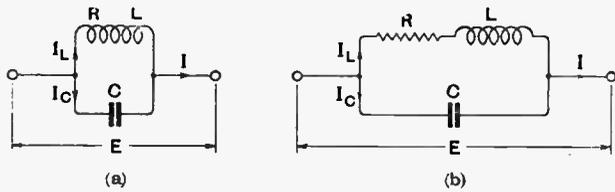
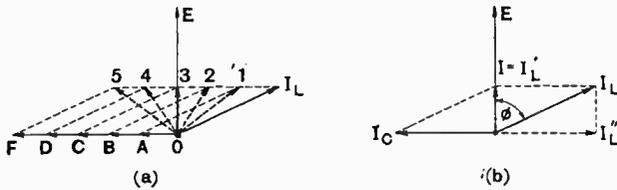

Fig. 1.—Parallel circuit (a) in which the inductance contains resistance and (b) the electrically equivalent circuit.
Fig. 3.—(a) Vector diagram to show that the current is a minimum when in phase with the voltage. (b) Vector diagram of parallel circuit tuned to resonance.
ries connected in series with a pure resistance of  $R$  ohms, and thus the parallel circuit of Fig. 1 (a), where the inductance coil possesses resistance  $R$ , is equivalent to the circuit of Fig. 1 (b), where the coil  $L$  has no resistance and the resistance  $R$  is free from inductance.
Suppose now that the capacity  $C$  could be varied over a wide range, the frequency being fixed; then the current in the coil would remain unchanged, and the condenser current  $I_C$  would be directly proportional to the capacity, so that the resultant current  $I$  would vary both in phase and in magnitude. In the vector diagram of Fig. 3 (a) the dotted line vectors, 1, 2, 3, 4, 5, show the resultant current for the several values,  $O A$ ,  $O B$ ,  $O C$ ,  $O D$ ,  $O F$ , respectively, of the condenser current. Now, obviously the shortest of these vectors is No. 3, which is exactly in phase with the applied voltage  $E$ , and therefore there is a certain value of condenser current  $I_C$  which will make the main current  $I$  a minimum, this minimum current being in phase with the applied E.M.F. Under these conditions the impedance  $Z$  of the circuit is clearly a maximum. When this occurs the circuit is tuned to complete resonance with the frequency  $f$  of the applied voltage. It should be noted here that the conditions are exactly
In tuning a parallel circuit to resonance then we are arranging the circuit to offer the greatest possible impedance to currents of a certain desired frequency or wavelength and to offer a low impedance to currents of other frequencies, and the observations made with regard to selectivity and signal strength in connection with the series circuit can be applied in general to the parallel circuit. The resonance curves showing the relation between frequency and impedance must reach as high a maximum value as possible at the resonant frequency, and the peak must be as sharp and pointed as possible. From the phase relations shown by the vector diagram of Fig. 3 (b) we can find what the necessary conditions are for obtaining the highest possible impedance at the frequency of complete resonance. At this frequency we saw that the result-
The maximum impedance  $Z$  of the circuit of Fig. 1, obtained when it is tuned to complete resonance, is equal to the ratio of the applied voltage  $E$  to the main current  $I$  drawn from the source of supply, *i.e.*,  $Z = E/I$  ohms. But from the vector diagram of Fig. 3 (b) we see that  $I = I_L \cos \phi = \frac{E}{Z_1} \cos \phi$ , from equation (1) above. Therefore the circuit impedance